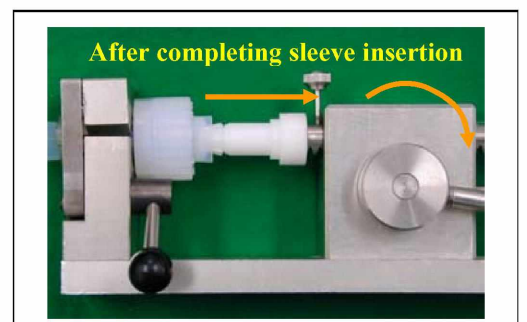

Fig. 19- Completely inserted sleeve
- Turn the lever clockwise as viewed from you. The sleeve holder will move back and the diameter expansion ring will be unlocked. Now the inserted tube sleeve can be removed from the sleeve holder (see Fig. 19).